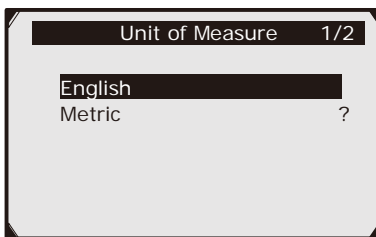

Figure 3.6
2. From **Unit of Measure** screen, use the **Up/Down** scroll button to select the desired unit of measurement. (See **Figure 3.6**)